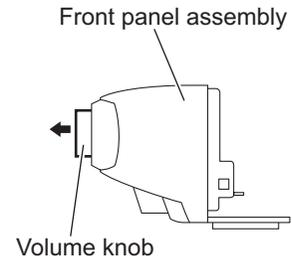

Fig.3
3.2.5 Removing the front board (See Figs. 3 and 4)
- (1) From the front side of the front panel assembly, pull out the volume knob in the direction of the arrow. (See Fig. 3.)